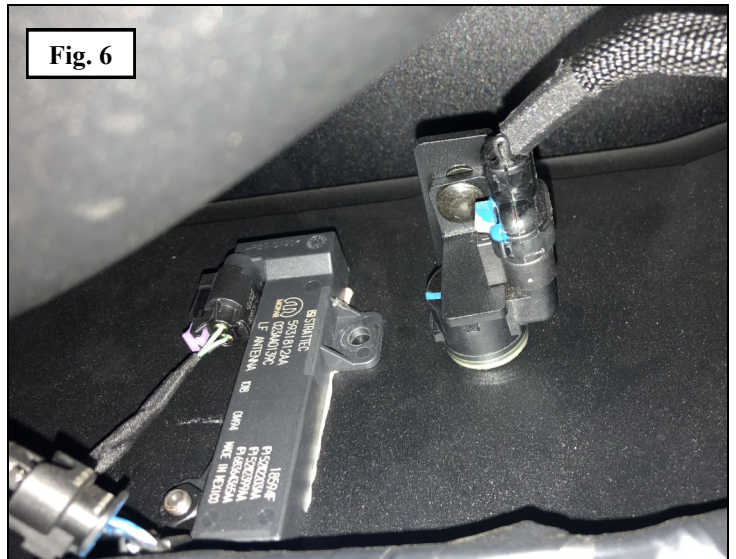

Fig. 6
- Using M8 hardware (19-22), install trailer connector bracket (3) to the back plate of the bumper. Adjust up and down as desired and tighten M8 hardware to 15-18 ft-lbs. See **Figure 6**.